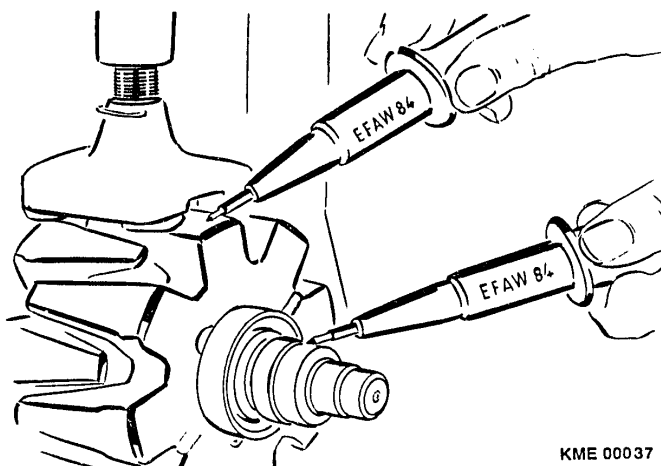

Figure 22 Rotor Insulation Testing
2. Using insulation tester KDAW 9983 or equivalent, apply 80 VAC to the rotor claw poles and each of the collector rings. If the insulation tester lights, there is a short to ground within the rotor. (Figure 22)